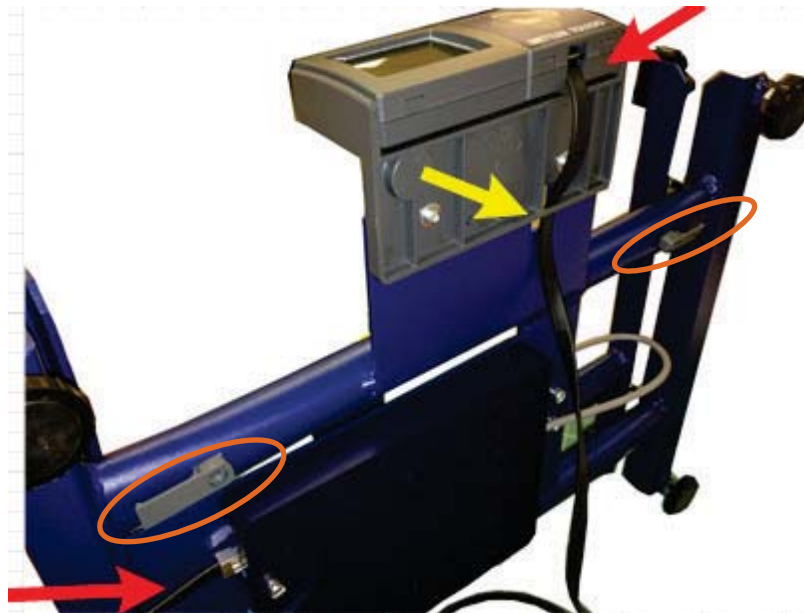

Figure 2-1: Display Installation
2. Use the two grey clips on the bottom of the scale (indicated in Figure 2-1) to wrap excess cable beneath scale.